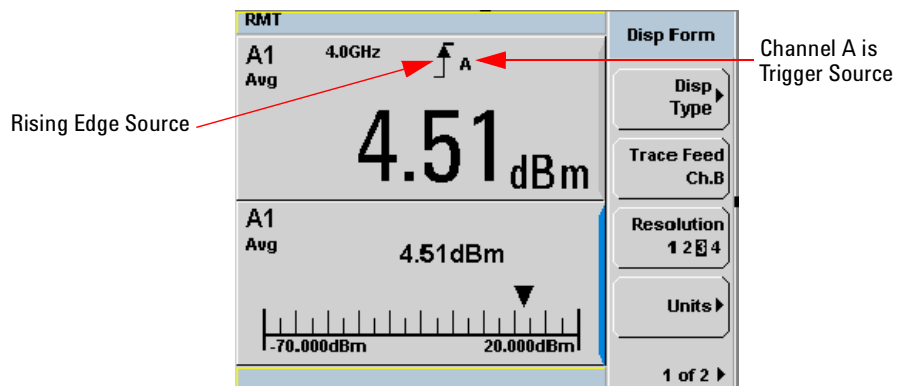

Figure 2-33 Trigger Setting Menu 1 of 2
- 3 Click **Settings** to configure the remaining trigger parameters. The trigger Settings menu have 2 pages. Figure 2-33 shows page 1 and Figure 2-36 shows page 2.